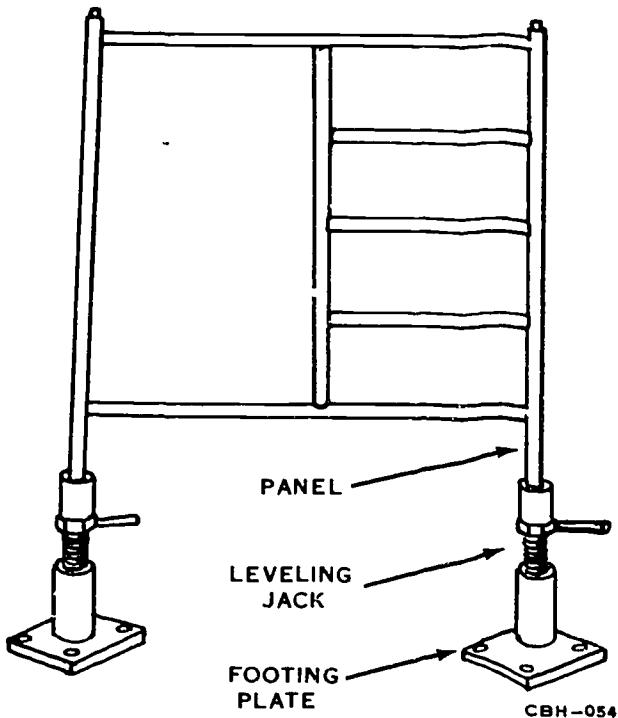
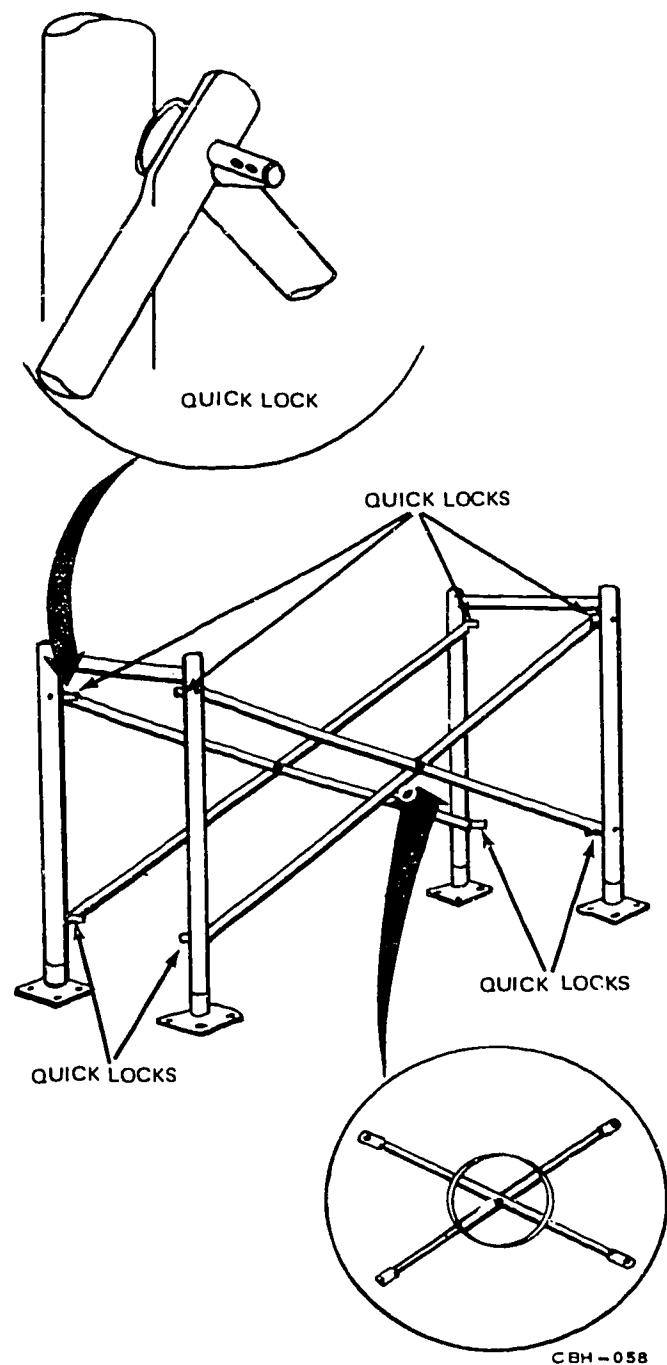
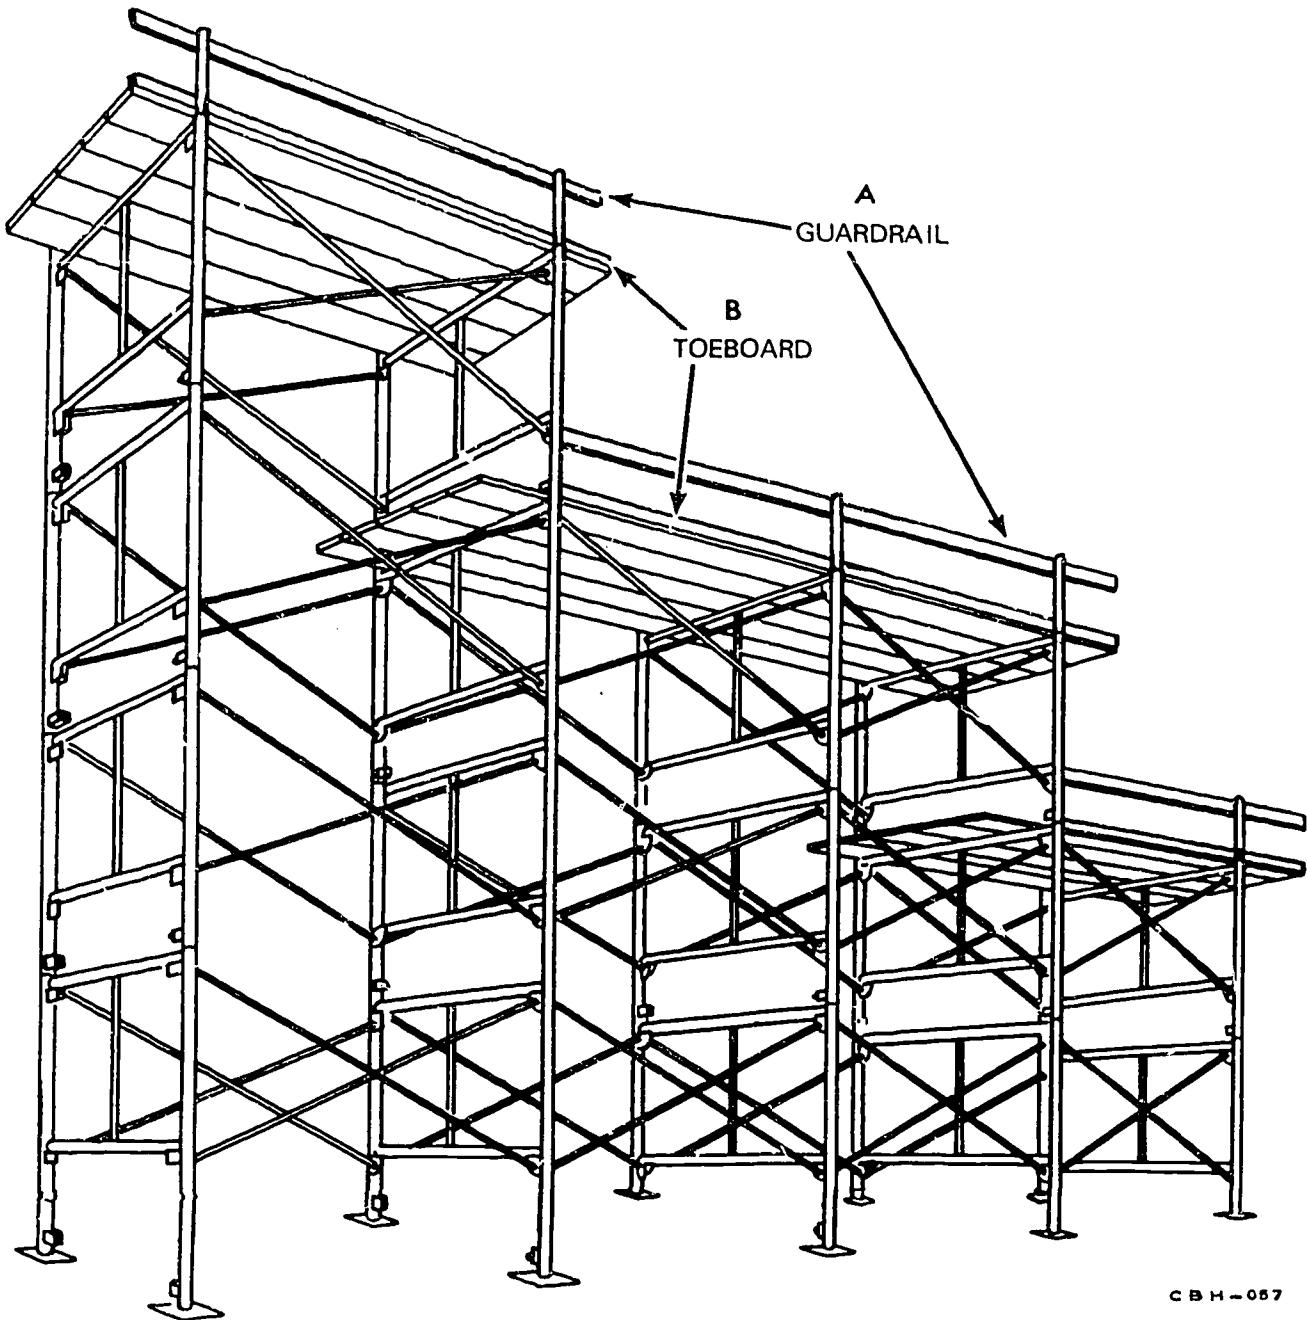

Figure 4-5. Installing leveling jacks.
Figure 4-6. Installing braces.
Figure 4-7. An erected scaffold.
**Sectional steel scaffold.** First set the footing plates on firm, even ground or on a board to support the weight of the scaffold. Then insert a leveling jack into each footing plate and install two panels into the leveling jacks (fig. 4-5). Have helpers steady the panels while you attach X-type pivoted braces, as shown in figure 4-6. Now you have one basic unit. Add more units until the scaffold is as long and as tall as you need. Figure 4-7 shows an erected scaffold. The upright legs of the scaffold are held securely by couplings. Spring-loaded pins in the coupling automatically lock the sections together.